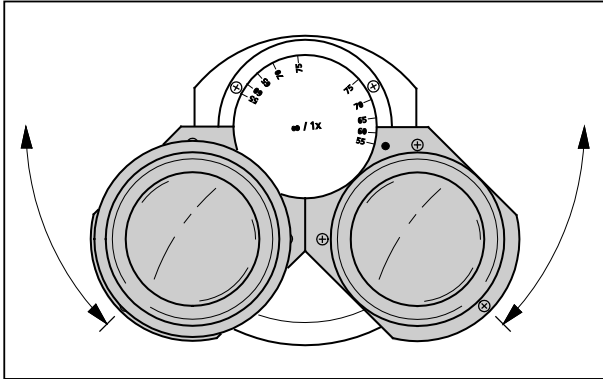

Fig. 14 Setting the interpupillary distance on the binocular tube
- To adjust the eyepiece distance to your individual interpupillary distance, swing the eyepiece tubes symmetrically toward or away from one another (Fig. 14).